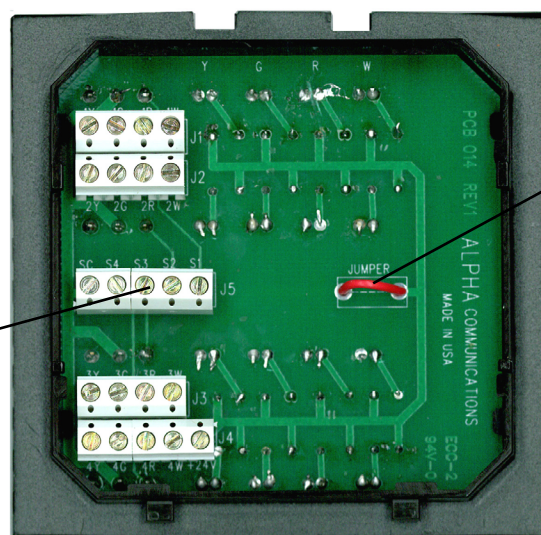

Fig. 1
A special note concerning the RSM404 Master LED Module; Each RSM404 module has four (4) built-in low-voltage momentary pushbutton switches, which can be activated from the front by depressing one of the BELL SYMBOLS. These switches can be connected by using terminals 'S1' common terminal 'SC'. When shipped from the factory, terminal 'SC' is connected to the +24VDC power. If you wish to isolate these buttons from the +24VDC power, you need to cut the jumper wire shown on Fig. 1. This will allow you to connect these switches to another, separate low voltage power source of your own, for any special signaling requirement you may have.